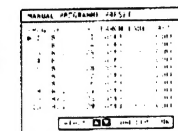

Fig. 17.
- 3 Select Manual Programme Preset with Δ or ∇ and press OK. The MANUAL PROGRAMME PRESET menu appears. (See Fig. 17.)